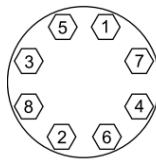
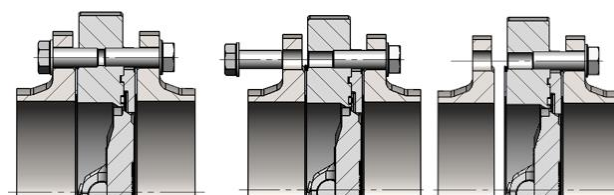

Fig. 9: Cross tightening
Fig. 10: Removing the flange behind the valve
- Install the remaining bolts. Always tighten bolts in a cross pattern (see Fig. 9).
- Gradually loosen the screws in a cross pattern as shown in Fig. 9 on the side behind the valve, then remove the flange and pipe behind the valve (Fig. 10).